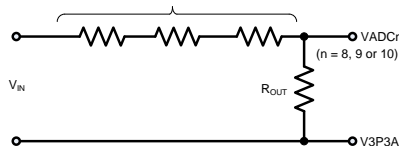
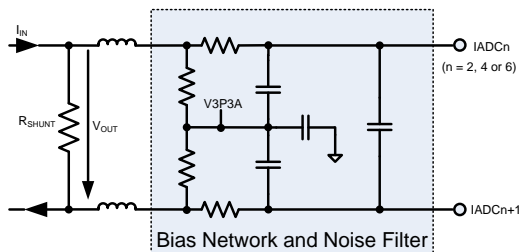
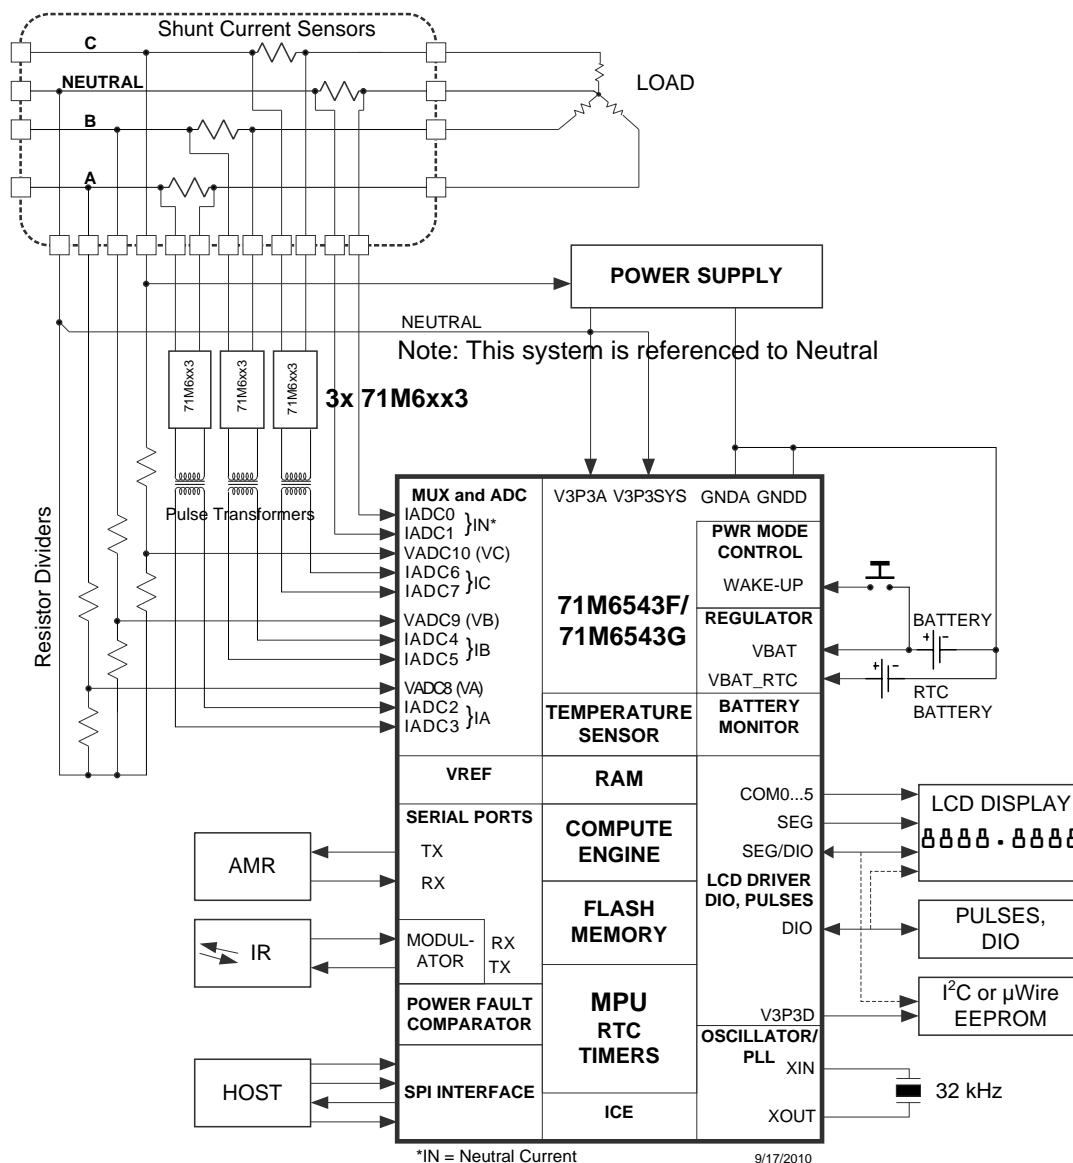
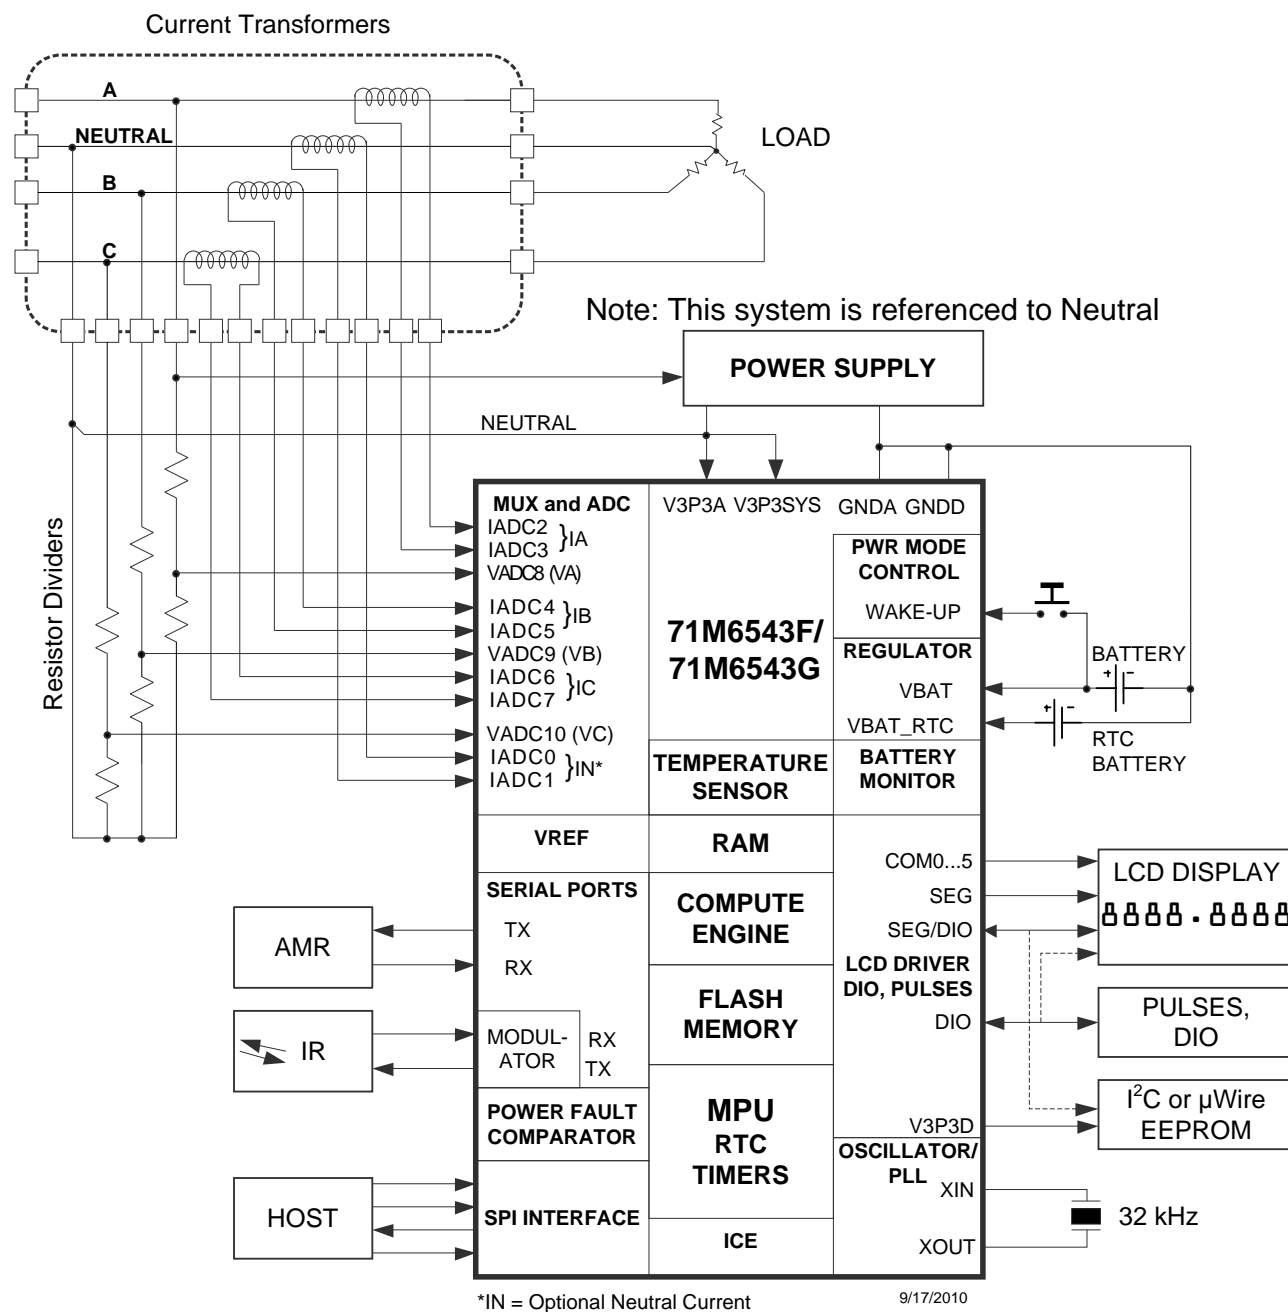

Figure 27: Resistive Voltage Divider (Voltage Sensing)
Figure 30: Differential Resistive Shunt Connections (Current Sensing)
Figure 31: System Using Three-Remotes and One-Local (Neutral) Sensor
Figure 32. System Using Current Transformers
Figure 27 through Figure 30 show voltage-sensing resistive dividers, current-sensing current transformers (CTs) and current-sensing resistive shunts and how they are connected to the voltage and current inputs of the 71M6543. All input signals to the 71M6543 sensor inputs are voltage signals providing a scaled representation of either a sensed voltage or current.
Figure 31 shows a typical connection for current shunt sensors; using the 71M6xx3 (polyphase) isolated sensors. Note that one shunt current sensor is connected without isolation, which is the neutral current sensor in this example (connected to pins IADC0-IADC1). Each 71M6xx3 device is electrically isolated by a low-cost pulse transformer. The 71M6543 current sensor inputs must be configured for remote sensor communications, as described in 2.2.8 71M6xx3 Isolated Sensor Interface (page 22). Flexible remapping using the I/O RAM registers *MUXn_SEL[3:0]* allows the sequence of analog input pins to be different from the standard configuration (a corresponding CE code must be used). See Figure 2 for the AFE configuration corresponding to Figure 31.
Figure 32 shows a polyphase system using four current transformers to support optional Neutral current sensing for anti-tamper purposes. The Neutral current sensing CT can be omitted if Neutral current sensing is not required. The system is referenced to Neutral (i.e., the Neutral rail is tied to V3P3A and V3P3SYS).
This section discusses metrology temperature compensation for the meter designs where current shunt sensors are used in conjunction with the 71M6xx3 remote isolated sensors, as shown in Figure 31.
Referring to Figure 31, the VADC8 (VA), VADC9 (VB) and VADC10 (VC) voltage sensors are always directly connected to the 71M6543. Thus, the precision of the voltage sensors is primarily affected by VREF in the 71M6543. The temperature coefficient of the resistors used to implement the voltage dividers for the voltage sensors (see Figure 27) determine the behavior of the voltage division ratio with respect to temperature. It is recommended to use resistors with low temperature coefficients, while forming the entire voltage divider using resistors belonging to the same technology family, in order to minimize the temperature dependency of the voltage division ratio. The resistors must also have suitable voltage ratings.
Table 66 shows the five *GAIN_ADJ_x* equation output storage locations and the voltage or current sensor channels for which they compensate for the 1 Local / 3 Remote configuration shown in Figure 31.
Table 66: GAIN_ADJn Compensation Channels (Figure 2, Figure 31, Table 1)
This section discusses metrology temperature compensation for meter designs where Current Transformer (CT) sensors are used, as shown in Figure 32.
Referring to Figure 32, the VADC8 (VA), VADC9 (VB) and VADC10 (VC) voltage sensors are directly connected to the 71M6543. Thus, the precision of the voltage sensors is primarily affected by VREF in the 71M6543. The temperature coefficient of the resistors used to implement the voltage dividers for the voltage sensors (see Figure 27) determine the behavior of the voltage division ratio with respect to temperature. It is recommended to use resistors with low temperature coefficients, while forming the entire voltage divider using resistors belonging to the same technology family, in order to minimize the temperature dependency of the voltage division ratio. The resistors must also have suitable voltage ratings.
Table 67: $GAIN_ADJ_x$ Compensation Channels (Figure 3, Figure 32, Table 2)